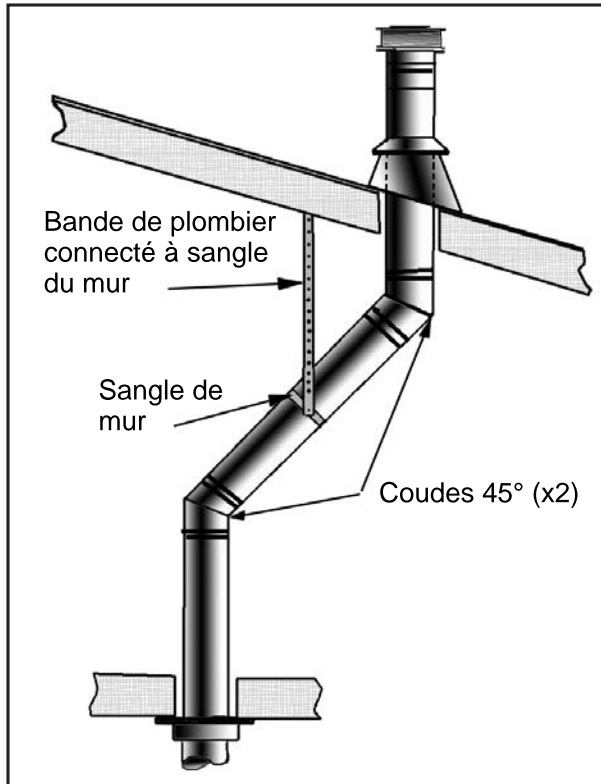
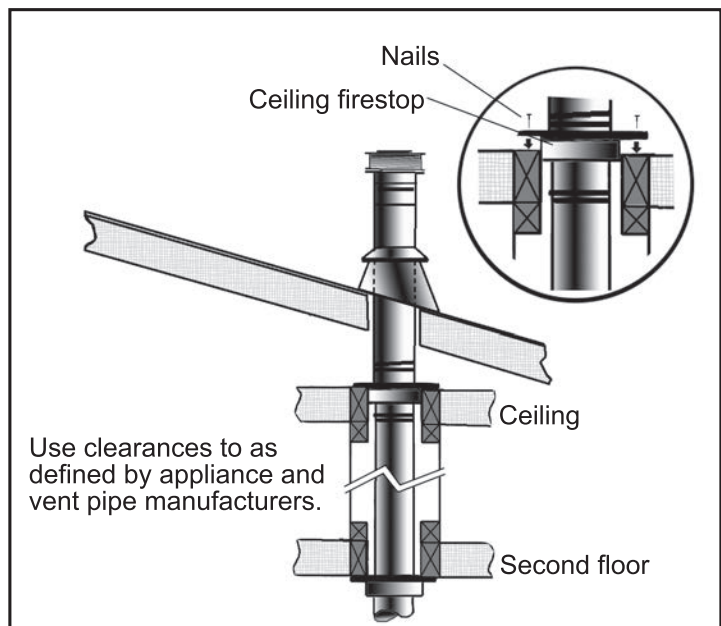

Figure 29: Use of Wall Straps.
Figure 30: Multi-Story Vent Pipe Installation
- (1) If an offset is necessary in the attic to avoid obstructions, it is important to support the vent pipe every **3' (914 mm)**, to avoid excessive stress on the elbows, and possible separation. Wall straps are available for this purpose (see Figure 29).
- (2) When ever possible, use 45° degree elbows instead of 90° degree elbows. The 45° degree elbow offers less restriction to the flow of flue gases and intake air.
- (3) For multi story installations; a ceiling firestop is required at the second floor, and any subsequent floors (see Figure 30). The opening should be framed to **10" (254 mm) x 10" (254 mm)** inside dimensions, in the same manner as shown in Figure 21.
The pressure taps are located on the top right of the valve shown in Figure 30.